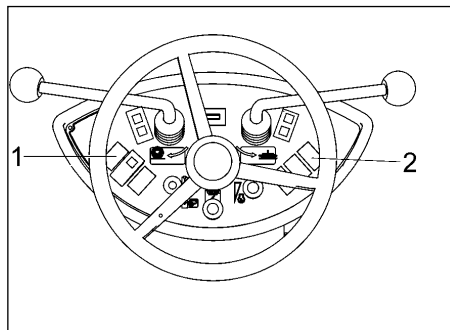

Fig.10
- Actuate switch (Fig. 10/1) and hold (dirt hopper is released)
- Actuate switch (Fig. 10/2) by pushing = lift dirt hopper
- Lower dirt hopper by actuating switch (Fig. 10/1) and switch (Fig. 10/2); pull lever = lower dirt hopper